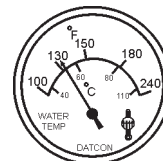

Figure 50. Coolant Temperature Gauge
11. The **coolant temperature gauge** (Figure 50) will indicate the coolant temperature. Under normal operating conditions the coolant temperature should be between 167°~203°F (75°~95°C) (**Green Zone**).